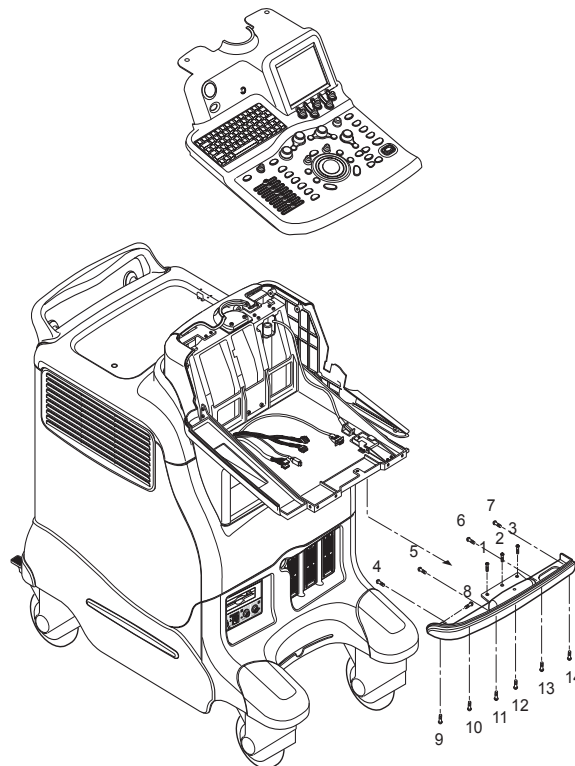

Figure 8-24 Removing Keyboard Front Grip
- 1.) Unscrew fourteen (14) screws (1-14). Refer to Figure 8-24 on page 8-17 .